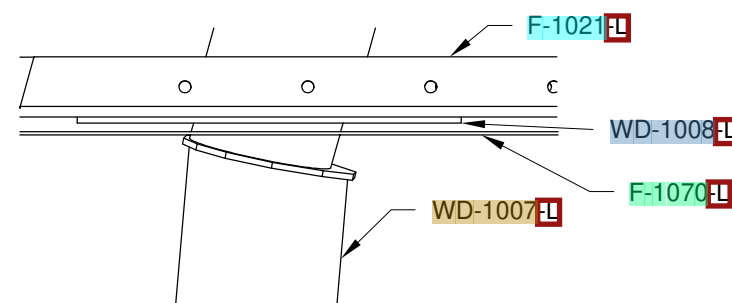

FIGURE 1: SETTING THE STEP SPANWISE POSITION
Step 1: Adjust the spanwise position of the WD-1007-L Step so the weld at the top of the step is flush with the F-1070-L Mid Side Skin as shown in Figure 1.